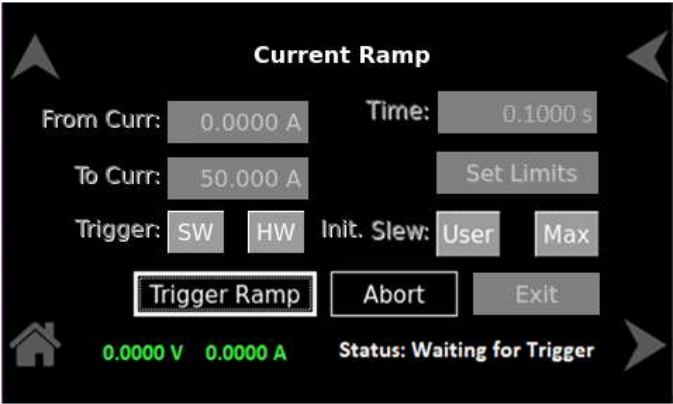

Figure 10-83. Trigger Ramp
**Trigger Ramp**      Used to send software trigger to the unit to start the ramp execution. Post initialization of ramp this function is enabled only when ‘Trigger’ selection is ‘SW’. Refer to Figure 10-83.